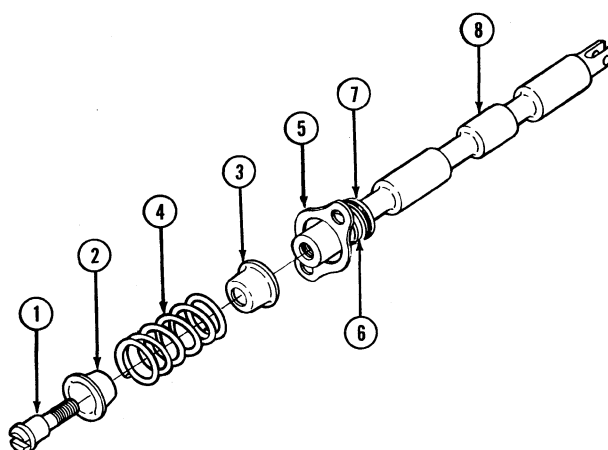

Figure 11
1. First install the O-ring (7), wiper (6) and seal plate (5) on the spool (8), Figure 11.
2. Install the bottom spring seat (3), spring (4), top spring seat (2), and cap screw (1) in this order, Figure 11.